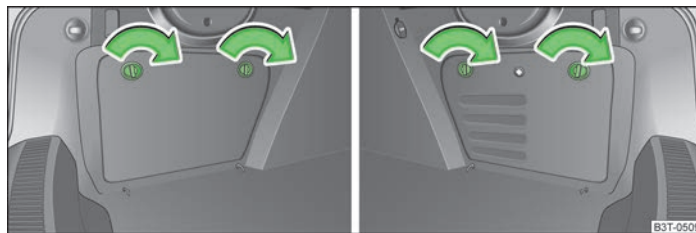

Fig. 102 **Boot: Side compartment - left/right.**
- The compartment is opened by turning the locks in the direction of the arrow » Fig. 102.
The CD changer and TV tuner are located in the right compartment » Fig. 102. ▶